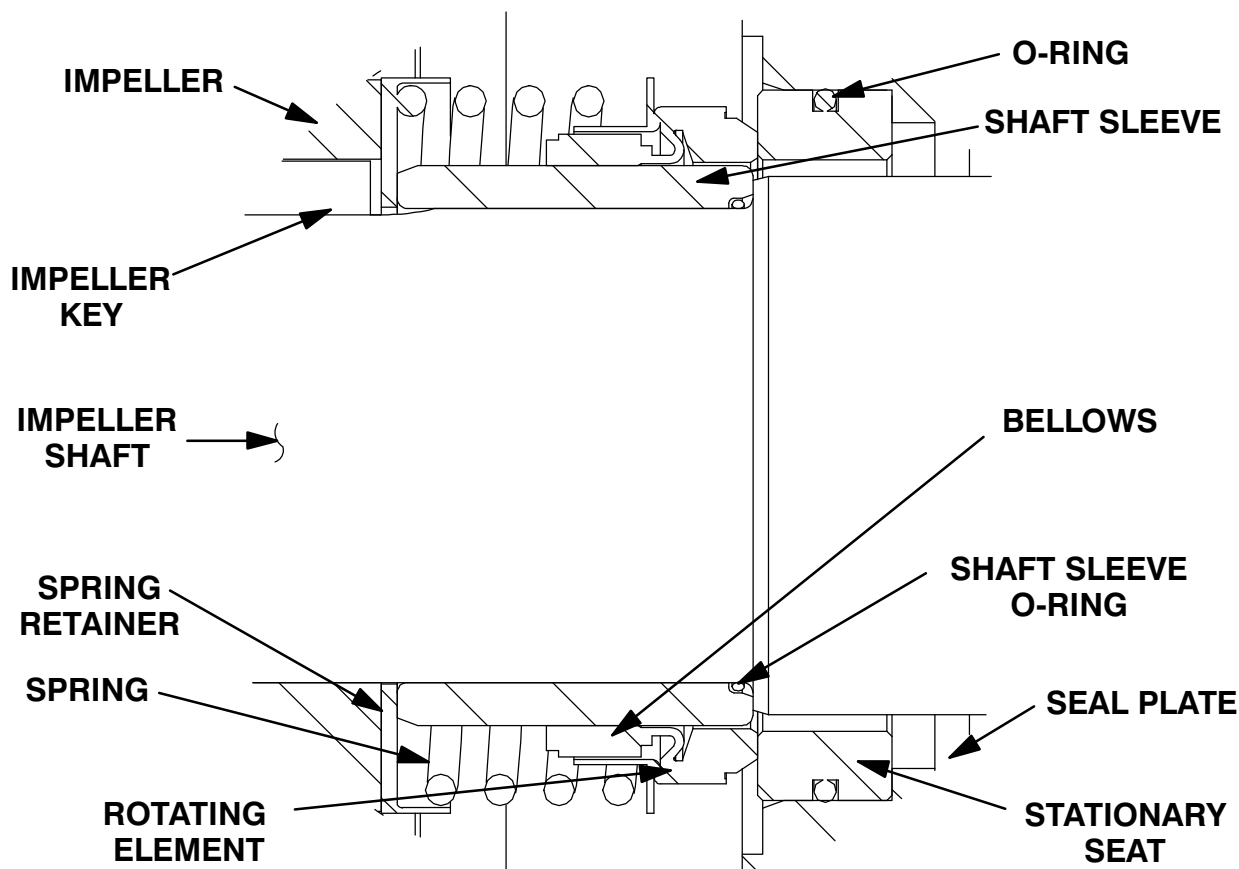

Figure 4. Seal Assembly
To ease installation of the seal, lubricate the stationary seat O-ring, the I.D. of the bellows and the O.D. of the shaft sleeve (5) with "P-80[®] Emulsion" or water. **Do not** use oil or any substitute lubricant other than water. Apply a drop of light lubricating oil on the finished faces. Assemble the seal as follows, (see Figure 4).